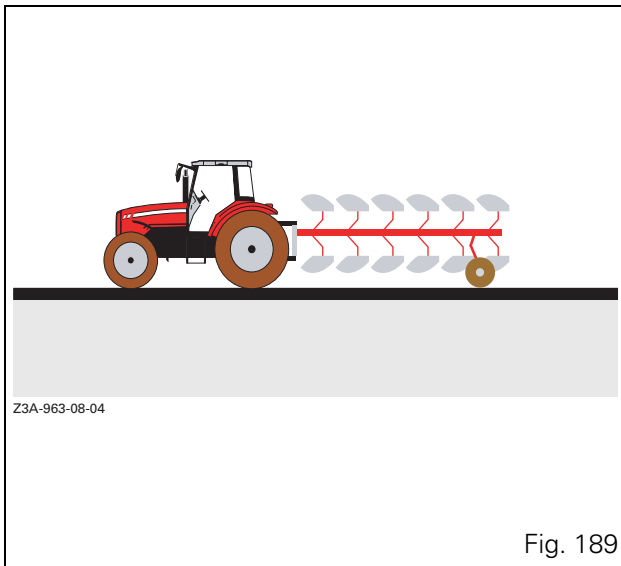

Fig. 189
- Place the linkage and depth wheel in high position (plough horizontal Fig. 189) using the following controls: